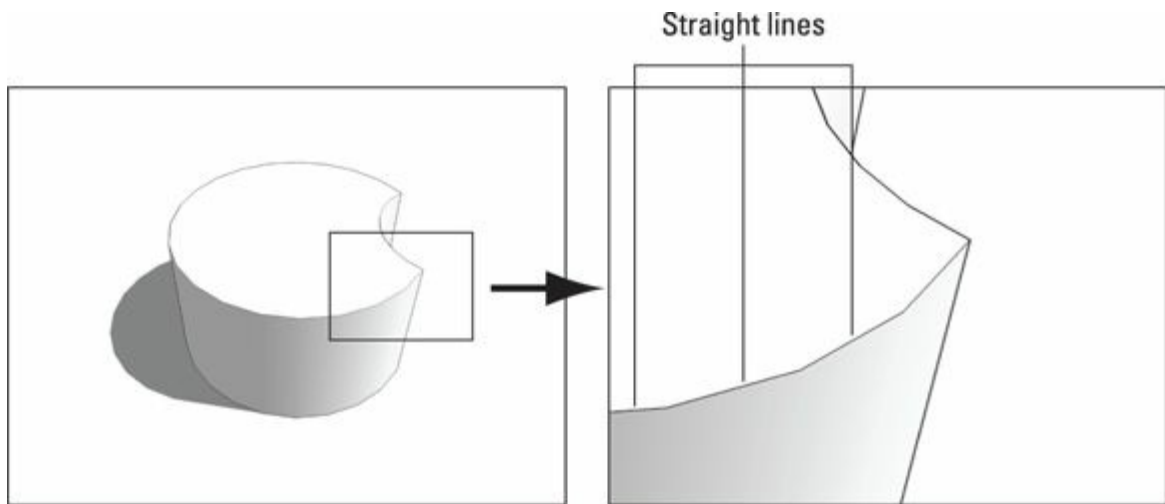

FIGURE 3-2: Even curved lines are made up of straight edges.
- » **Edges are always straight.** Not only is everything in your SketchUp model made up of edges, but all those edges are also perfectly straight. Even arcs and circles are made of small straight-line segments, as shown in Figure 3-2.